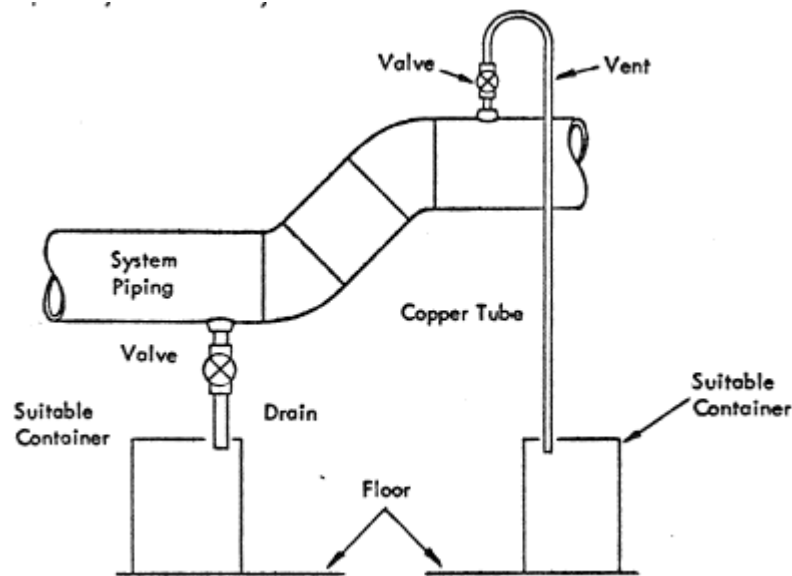

Figure 12, Typical System Vent and Drain
13.6.3 All system piping must be provided with vent valves as well as drain valves. (See Figure 12) It is customary to vent all high points in a system for removal of air from the system during filling. However, there may also be low points in the system where air can become trapped and should be vented. Long horizontal runs should also be vented at each 50 foot interval. System drains must be located at all low points and at other points where fluid can be trapped, should it ever become necessary to completely drain the system.